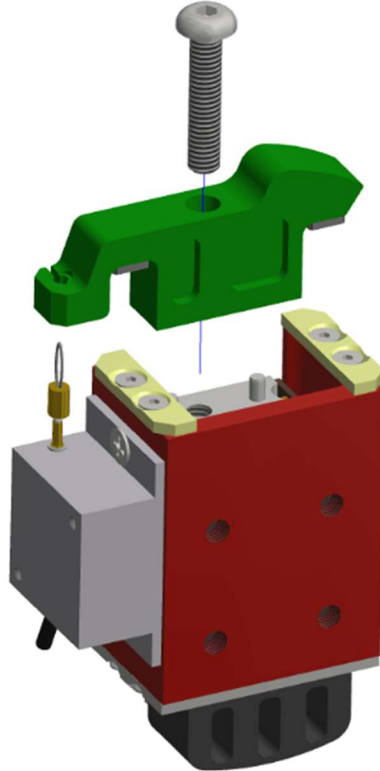
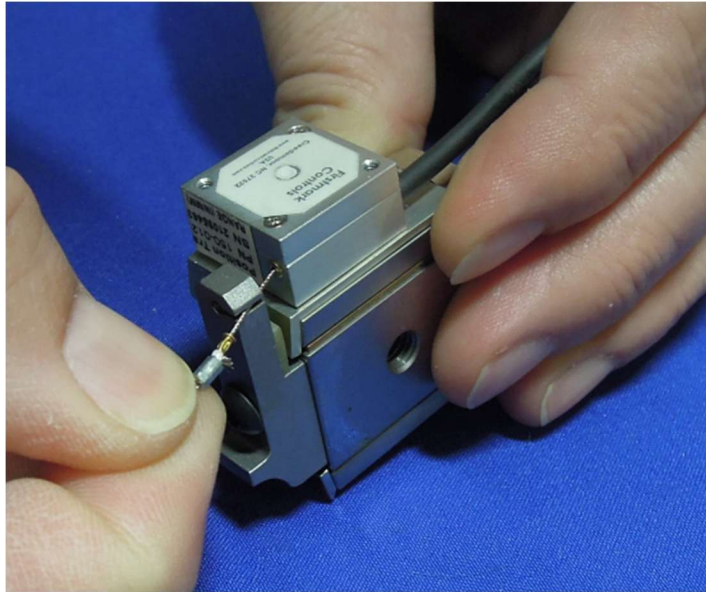

Figure 9-37. Attach the Knee Rotation Stop (474-5404) to the Left Knee Slider Upper Assemble (474-5421)
Figure 9-38. String Pot in notch in Knee Rotation Stop Pot (474-5404)
- 9.3.7 Attach the Knee Rotation Stop Pot (474-5404) to the Left Knee Slider Upper Assembly (474-5421) using one M4 X 0.7 X 14 LG. BHCS (Figure 9-37). Place the wire into the slot on the Knee Rotation Stop Pot (474-5404) so that the looped end will not return back against the pot housing (Figure 9-38).